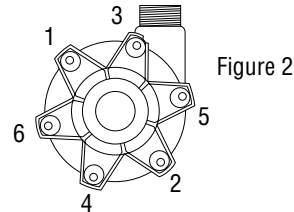

Figure 2
5. Gripping the discharge and the side of the impeller housing (note above warning), carefully install the wet end into the motor adapter. Note that the two housing studs (item 15) should be located at 3 and 9 o'clock (for 12 o'clock discharge location) and will go through the motor adapter.
6. Install the 5/16 x 3/4 SS hex bolts (item 7), the 5/16 flat washers (item 9), and the 5/16 hex nuts (item 8) and tighten to 70 in-lbs. of torque using the pattern shown in figure 2.